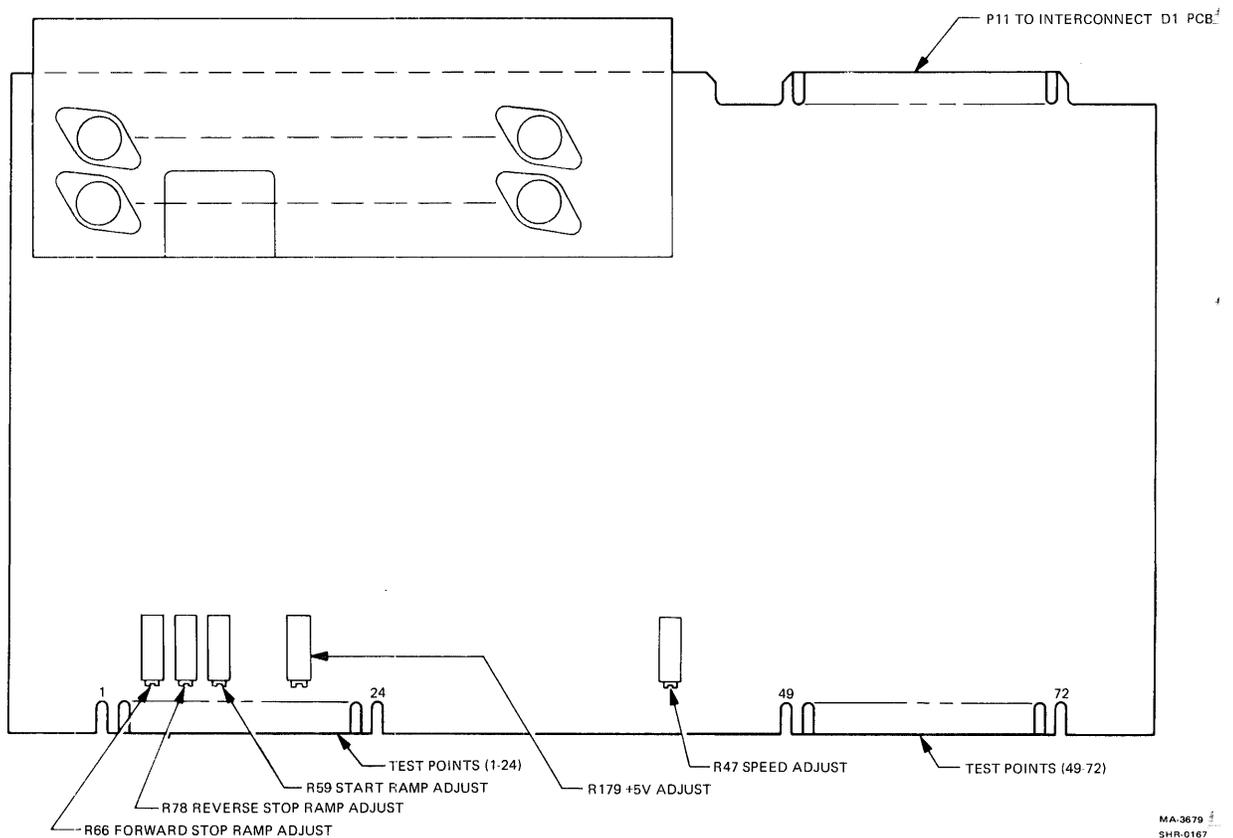

Figure 3-2 Capstan/Regulator PCBA Adjustments and Test Points
6. With a DVM, check all the regulated voltages b. monitoring TP11, TP15, and TP18 with respect to TP1 on the capstan/regulator PCBA. Figure 3-2 shows the locations of test points and adjustments.
7. If the voltage measured at TP11 is found to be outside specified limits, adjust potentiometer R179 on the capstan/regulator PCBA (Figure 3-2).